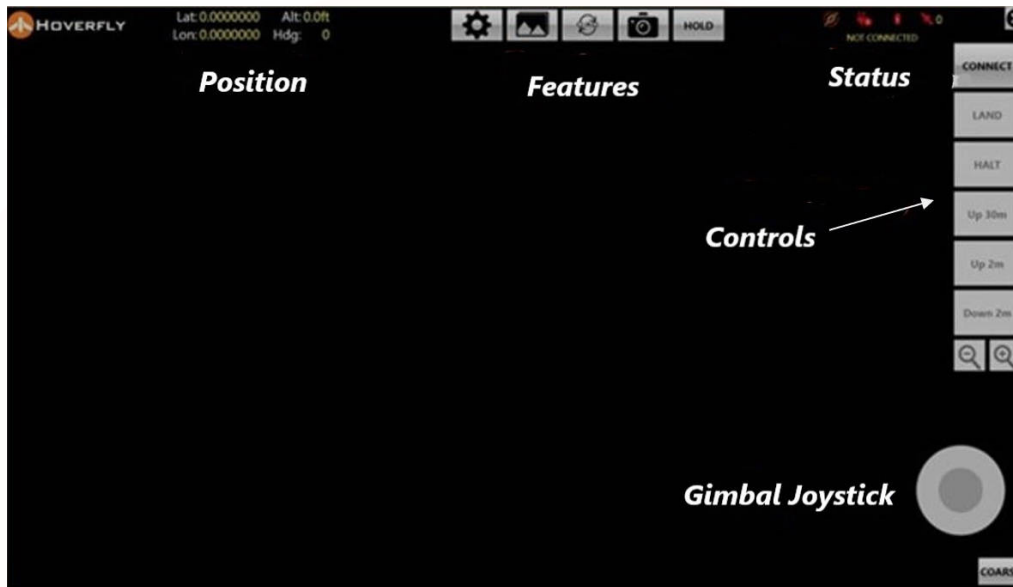

Figure 19: Controller GUI Screen
2. Activate the Hoverfly GUI by double clicking on the controller's Hoverfly control software. The GUI (**Figure 19**) is organized to provide maximum area for imagery, with information and controls around the perimeter.